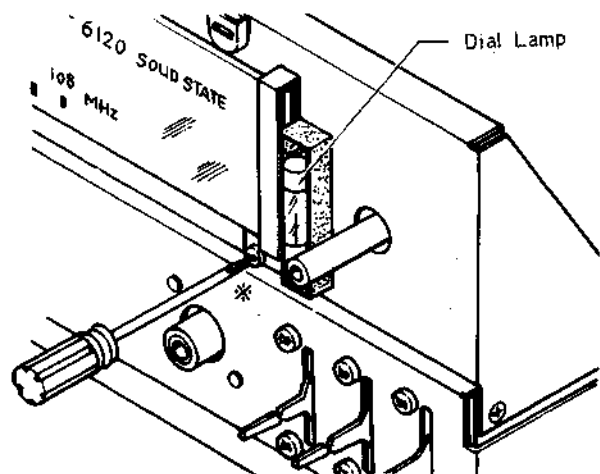

Fig. 2-8-1 Dial Glass Replacement
- Remove the screw (+RF2.6 ϕ ×5) that secures the dial glass bracket to the sub chassis as shown in Fig. 2-8-1.